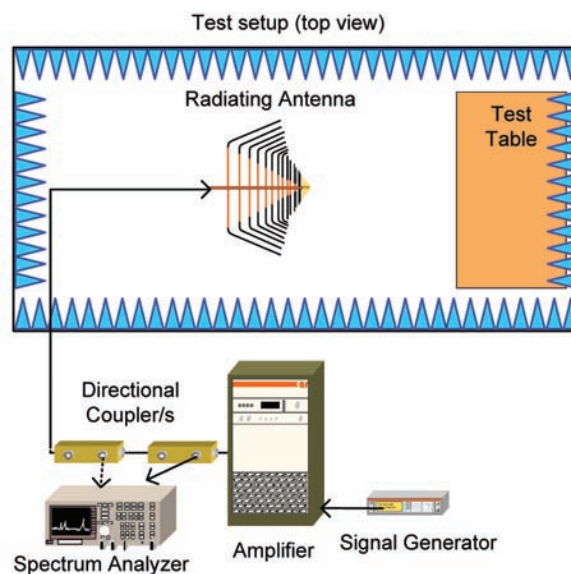

Figure 5: Basic Setup Diagram for Directional Coupler
1. Setup test as shown in Figure 5